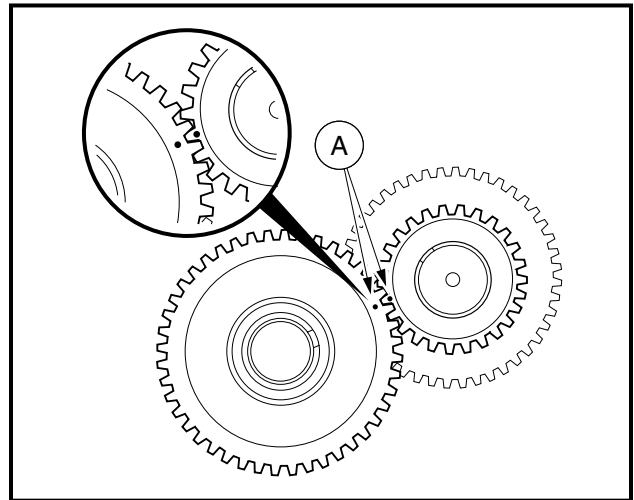

Figure 3-39 Timing Mark Alignment
1. Keep the timing marks (A) aligned during removal (**Figure 3-39, Page 3-21**).
3. Align the timing marks (3) (Figure 3-39, Page 3-21). **See following NOTE.**